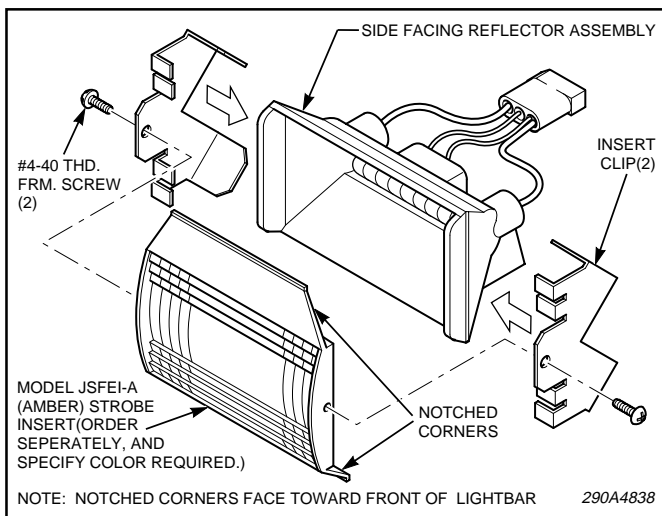

Figure 1.
1. See figure 1. Position two insert clips on the side facing reflector/flash tube assembly and press the clips until they slide into position.
2. Position the separately purchased insert as shown in figure 1. Align the holes in the insert with the holes in the clips and secure with two #4 screws.